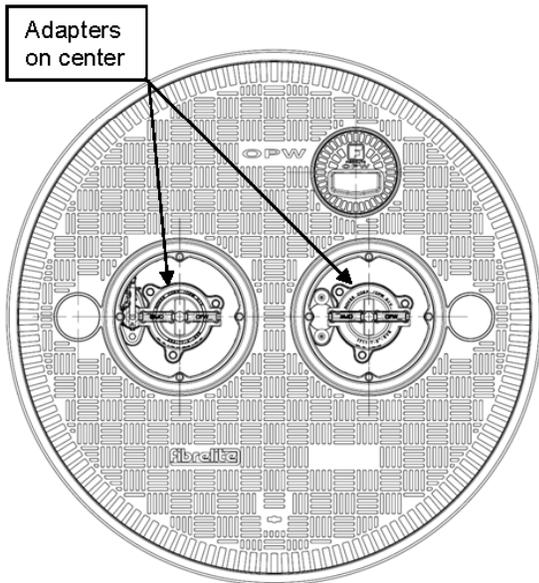

Figure 29
- 39. Ensure existing adapters are on center with existing ports. Adapters should be within approximately 1" radially of port center. If adapters are too far off center a retrofit may not be possible (See Figure 29.)
- 50. Ensure existing adapters are on center with existing ports. Adapters should be within approximately 1" radially of port center. If adapters are too far off center a retrofit may not be possible (See Figure 29)